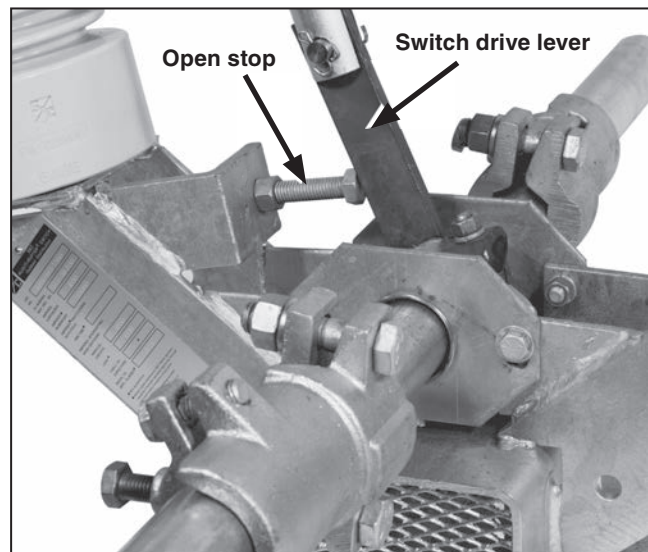

Figure 26. Verifying the switch drive lever is against its open stop.
- (c) With the operating handle as far as it will go in the opening direction, each switch drive lever should lie snugly against its open stop. See Figure 26. There should be perceptible tension in the operating pipe, locking the switch open.